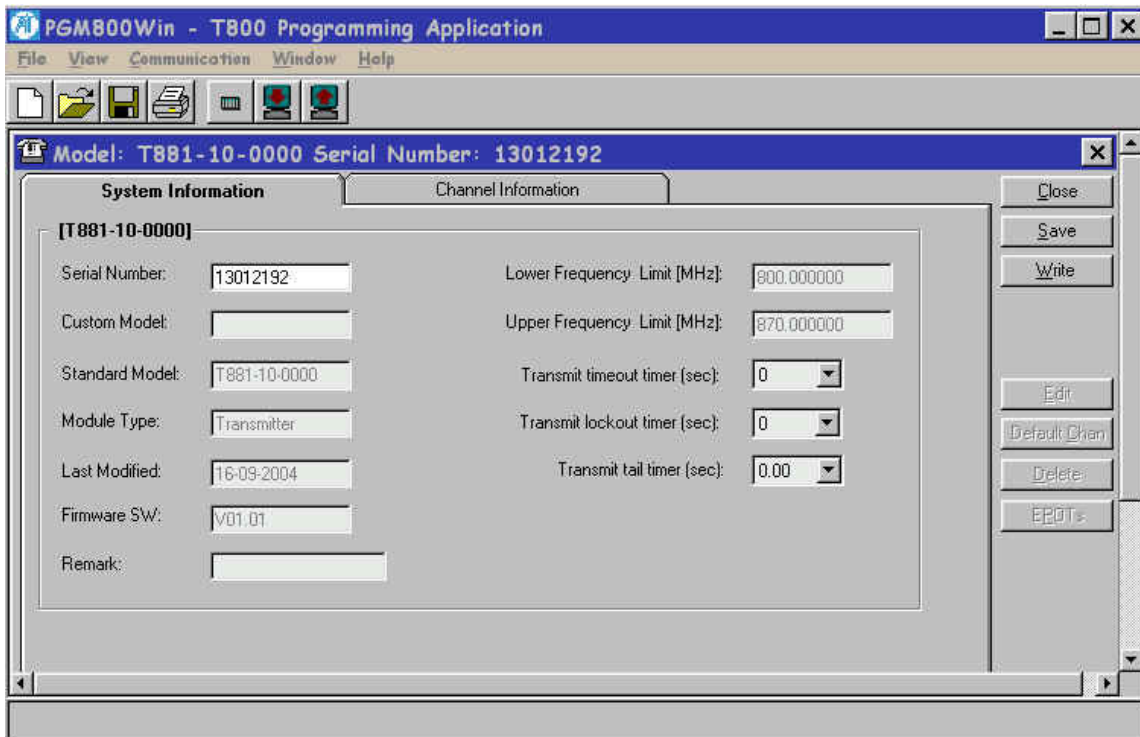
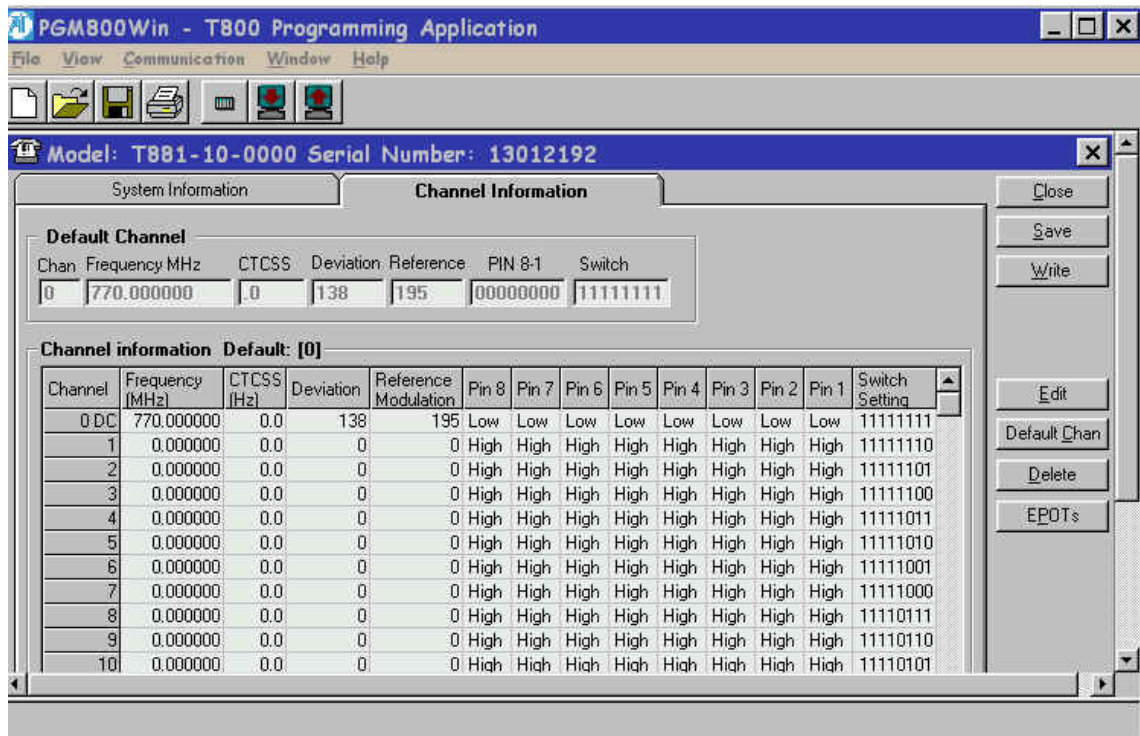

Figure 48 - Exciter System Information Sample
Figure 49 - Exciter Channel Information Sample
- Refer to Figure 48 and Figure 49 for screen program examples.